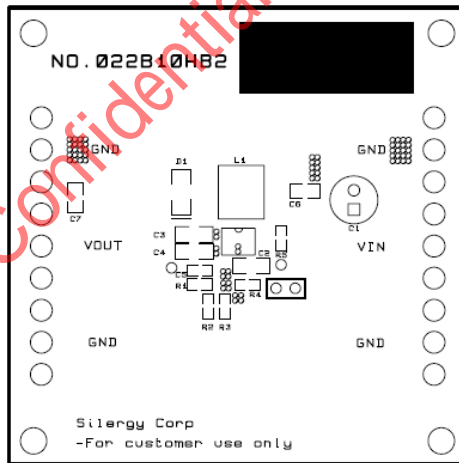

Figure3. Top Silkscreen
**Quick Start Guide (Refer to Figure 3)**